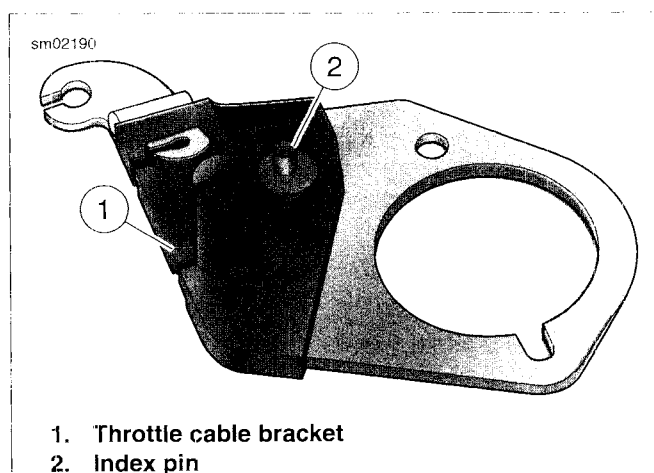

Figure 4-28. Throttle Cable Bracket
3. See Figure 4-28. Insert index pin (2) at bottom of throttle cable bracket into hole in boss at top of induction module.